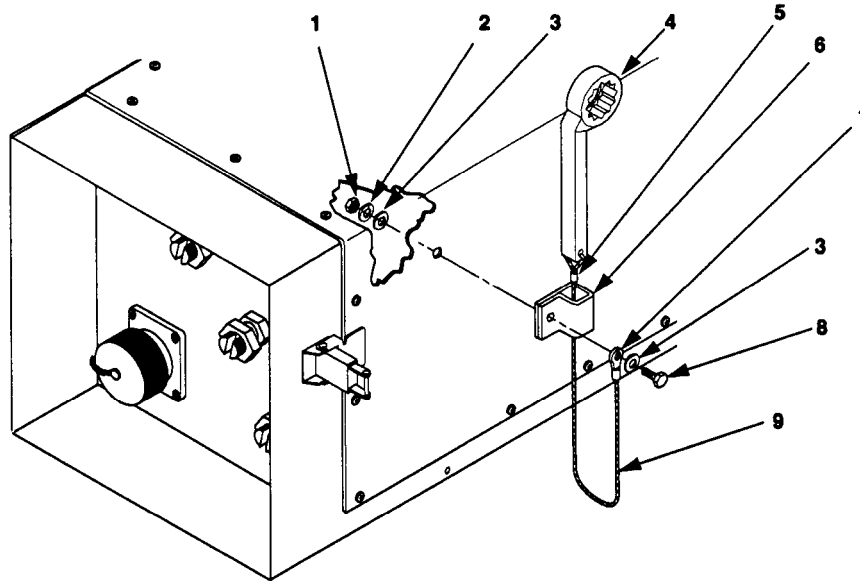

Figure 4-11. Switch Box Load Terminal Wrench Assembly Replacement.
2. Remove nut (1, figure 4-11), lock washer (2), and flat washer (3). Discard lock washer.
3. Remove screw (8), flat washer (3), loop clamp (6), and box wrench (4) with attached rope (9).
1. Place the loop clamp (6) so that mounting holes are in alignment with switch box cover holes.
2. Drop terminal lug end of rope (9) with box wrench (4) through loop clamp (6) as shown in figure 4-11.
3. Install screw (8), two flat washers (3), one terminal lug (7), new lock washer (2) and nut (1) that secures loop clamp (6) to switch box cover.